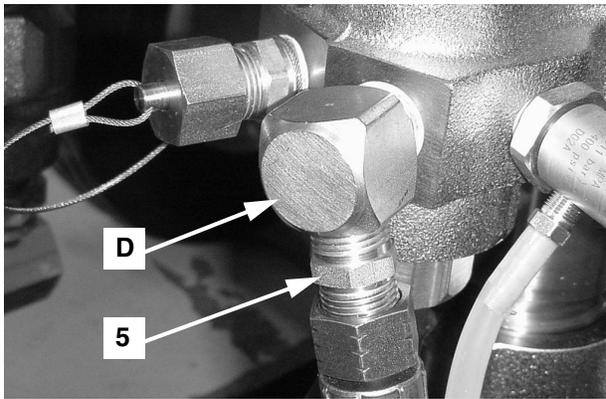

FIG. 8
8. Reorientate pump outlet elbow (D). Install nipple (5) into elbow (D). The plug must be in the left pump outlet port and the elbow fitting must be in the right side pump outlet port. Change orientation on the B side pump to match FIG. 8.